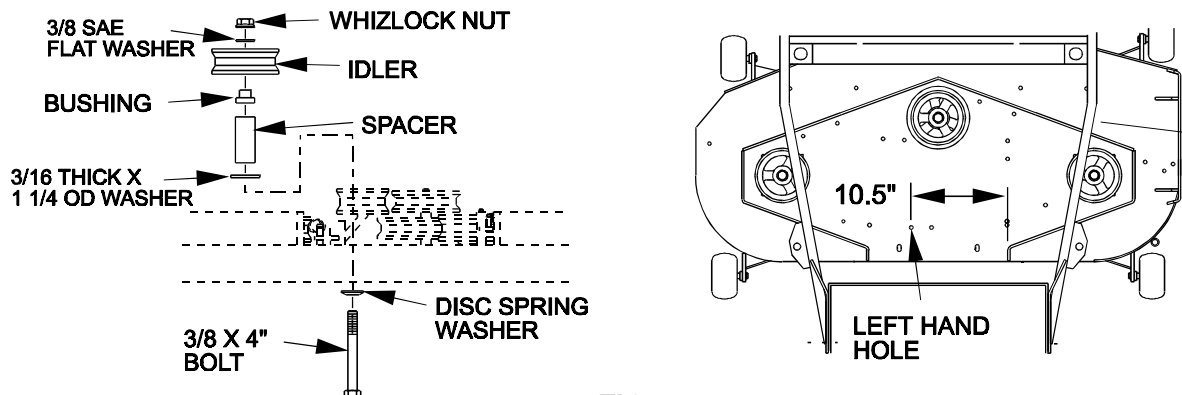

FIG 2
3.6.6 Install cutter deck stationary idler. Locate two holes along the back center section of the cutting deck. Install the stationary idler and related parts in the left hand hole location as shown in Figure 2. See the belt routing decal on deck. Be sure the coned end of the disc spring is against the head of the bolt as illustrated (see Figure 2).